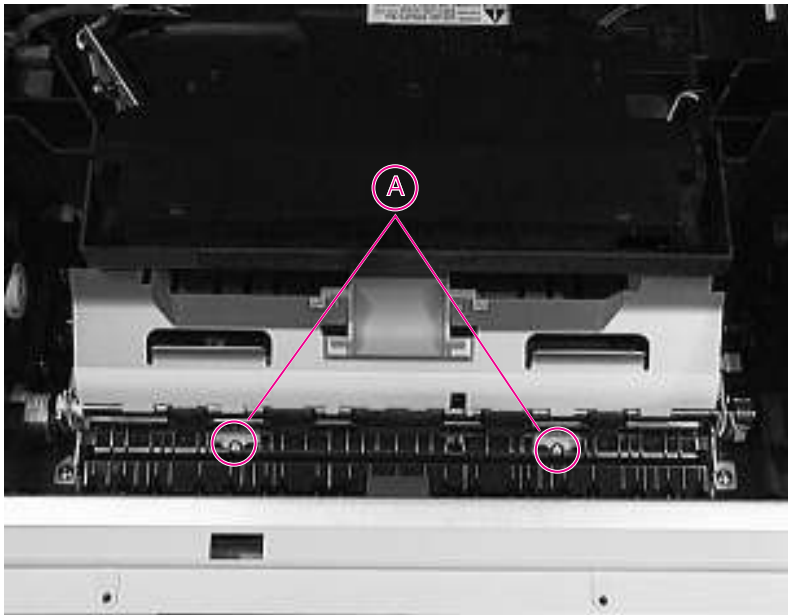

Figure 6-35 Location of two “common” screws (inside printer)
- 3 Remove the two machine screws in the center of the printer, under the Registration Assembly Roller Guide. See Figure 6-35.